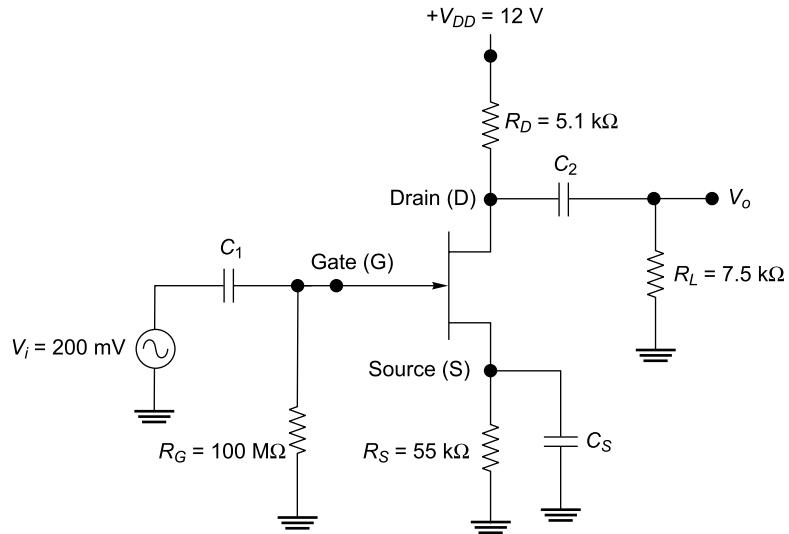

Fig. 1.90
48. Figure 1.90 shows a common source JFET amplifier circuit. Determine the value of output voltage gain of the amplifier, if $g_m = 4000 \mu\text{S}$, and $I_D = 6 \text{ mA}$. The effect of drain resistance is neglected.